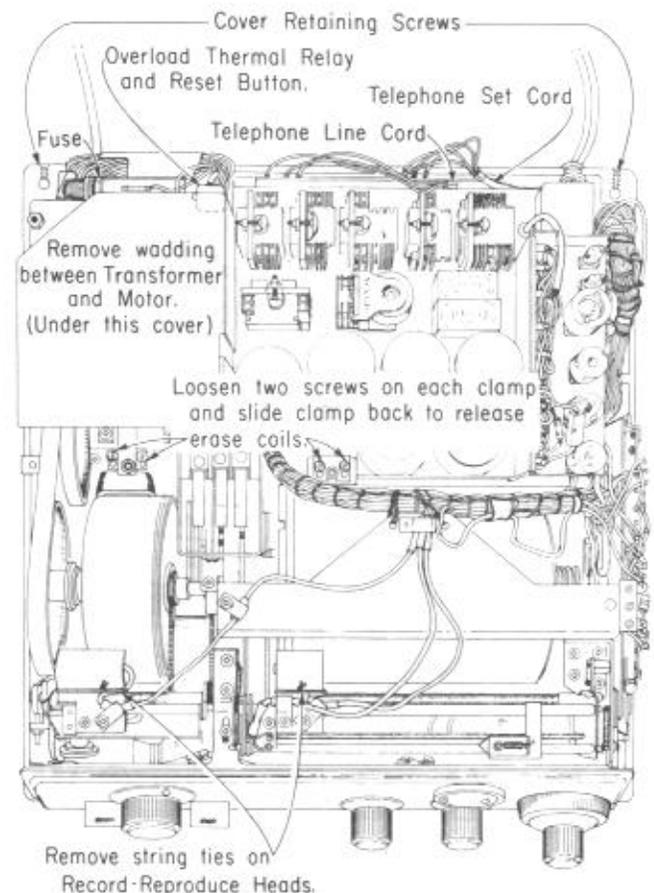

Fig. 1 - 1A Answering Set, Top View
1. Secure the magnetic record-reproduce heads by tying with lacing twine so that the heads are held out of contact with the recording drums (Fig. 1).
2. Secure the erasing coils by loosening the clamp screws, moving the clamps toward the front of the machine, and tightening the screws again (Fig. 1).
1. To remove the cover loosen the two cover retaining screws at the rear of the machine (see Fig. 1), just far enough to release the cover locking pins. When the cover is released, raise the rear of the cover until it clears the apparatus inside, then slide the cover forward to release the front end.
4. Release the movable coils for erasing messages on the Announcement and Incoming Message drums. To release the coils, loosen two screws on each clamp (see Fig. 1), slide the clamps toward the rear of the set, and retighten the screws.